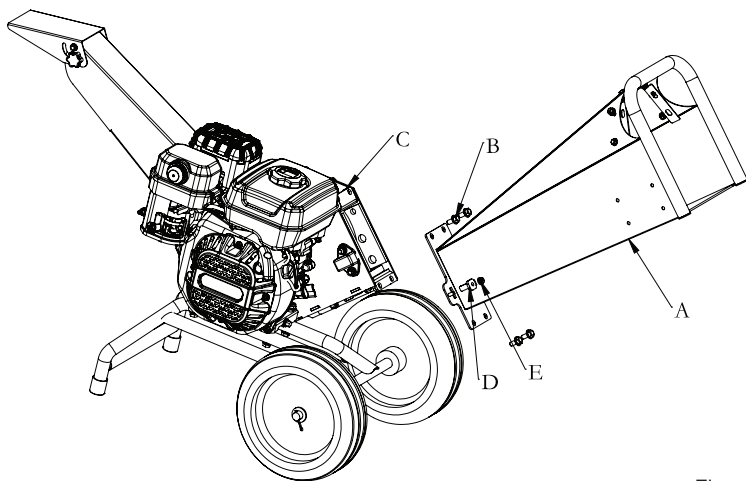

Figure 5
5. Affixing in-feed hopper (See Figure 5)
- a. Use four M8 flange nuts (B) to connect the in-feed bin (A) to the housing (C).
- b. Insert the safety key (D) into the slot of the switch box.
- c. Secure the safety key with the one flange M6 nuts (E).